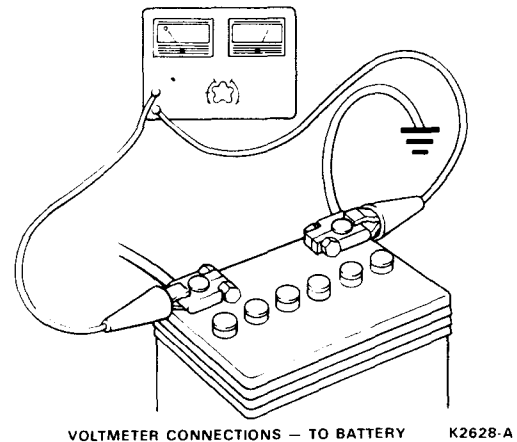

FIG. 8 Voltmeter-to-Battery Connections
1. Connect the negative lead of the voltmeter to the negative battery cable clamp (not bolt or nut), and the positive lead of the voltmeter to the positive battery cable clamp (not bolt or nut) (Fig. 8).